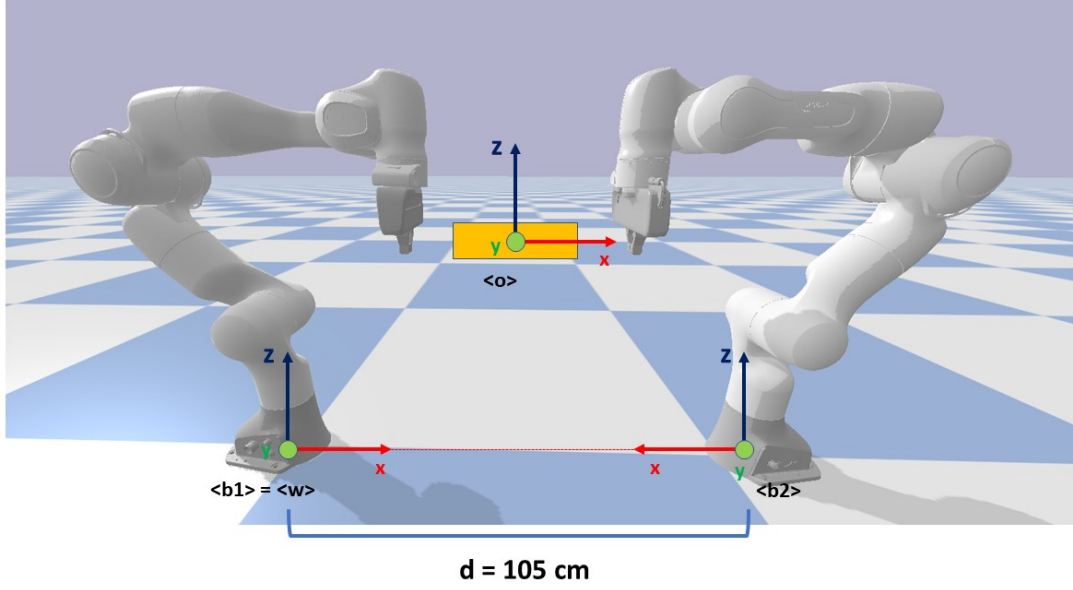

Figure 1: Basic transformation matrices
- The right arm base is rotated of π w.r.t. z-axis and is positioned 1.05 meters along the x-axis, see figure 1